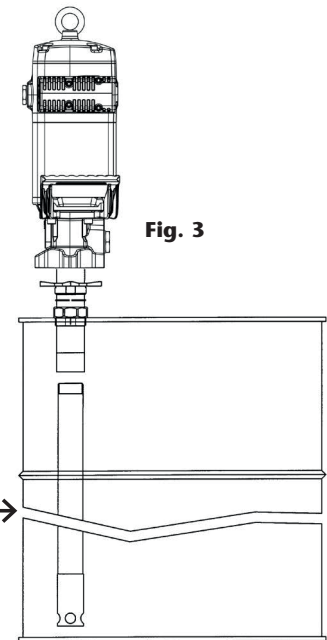

Fig. 3
- Adjustable drum or tank mounting, using bung adapter. Screw the proper suction tube (see Fig. 3) to the foot valve of the pump. Screw the nut of the bung adapter to the 2" opening of the cover. Insert the suction tube through the nut and secure it with the star nut at the desired height.